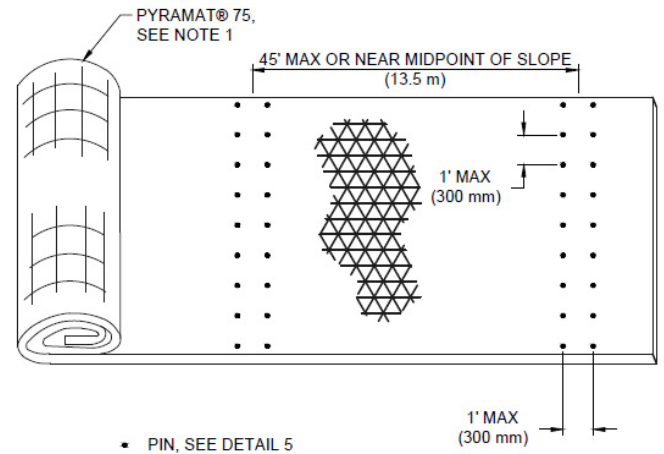

Figure 10: Simulated check slot
- For slope lengths greater than 45 ft (13.7 m), install simulated check slots. This method includes placing two rows of pins 12 in (300 mm) apart on 12 in (300 mm) centers at 45 ft (13.7 m) maximum intervals or across the midpoint of the slope for slope lengths less than 60 ft (18.2 m) (Figure 10).